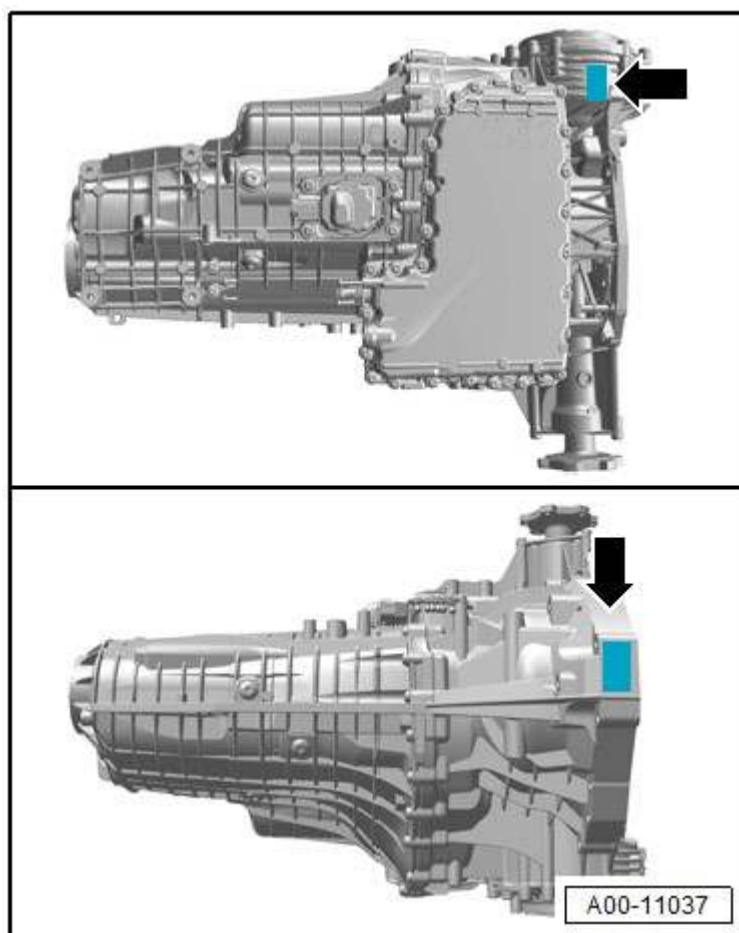

Figure 1. Locations of data stampings.
- Check one of the transmission data stamps which are located on the bottom of the front differential and the top of the bell housing (Figure1).